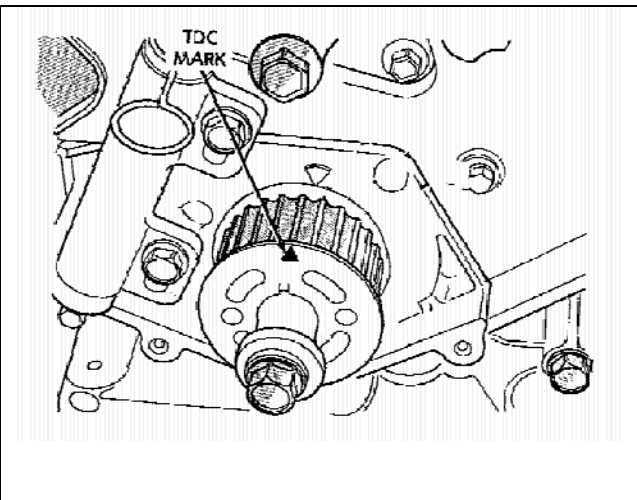

Fig 8 - Crankshaft front TDC mark
- 11) Check the cam timing. Align all the timing marks before you remove the belt. The diagram shows the position of all the pulleys when the marks are properly aligned. *See Figures 8 & 9*
- 14) Check cam timing *See Figures 8 & 9*